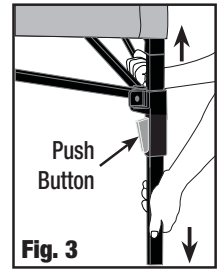

Fig. 3
- Pull up sliding bracket located on upper portion of leg until push button snaps into place. (Fig. 3) This will ensure upper portion of frame is fully extended.